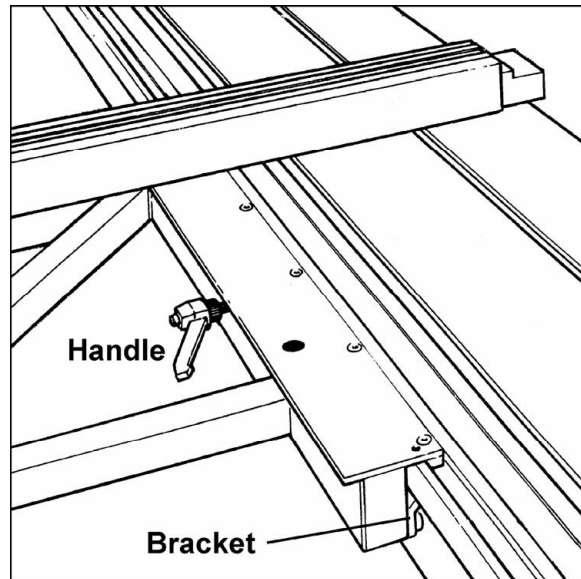

Figure 14
1. Place the crosscut table on to the edge of the sliding table as shown in Figure 14.